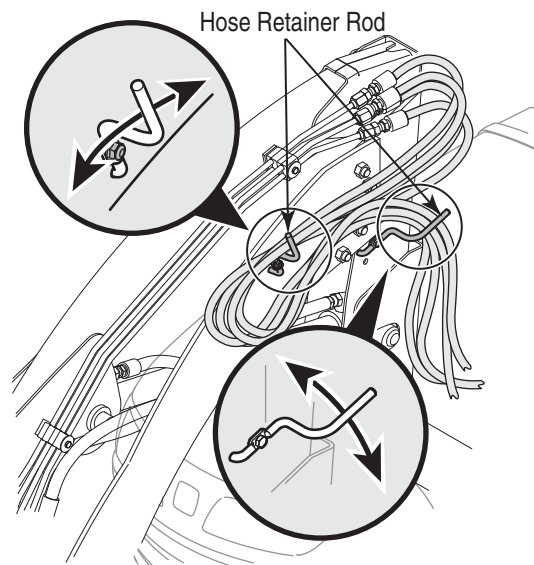

**Figure 11**
- While observing the base of the masts, slowly push the implement control lever forward to lower the boom, and to the right to dump the bucket. Drive the tractor forward (as needed) to settle the masts onto the tubular bars of the RH and LH mounts. Refer to Figure 11.
- When the masts are firmly settled into the tower mounts, continue to slowly push the control lever forward, and to the right, to raise the loader hitch bracket upward into the front mount receiver. As the loader hitch bracket is raised, the boom cylinder pivot pins should also rotate back into the notches of the RH and LH mounts. Refer to Figure 11. Drive the tractor forward as necessary.
- Remove the two lynch pins and withdraw the mounting pins from the front mount receiver. Refer to Figure 11.
- When the masts are firmly settled into the RH and LH mounts, continue to slowly push the control lever forward, and/or to the right, to raise the loader hitch bracket upward into the front mount receiver. As the hitch bracket is raised, the boom cylinder pivot pins should also rotate back into the notches of the RH and LH mounts. Refer to Figure 11. Drive the tractor forward as necessary.